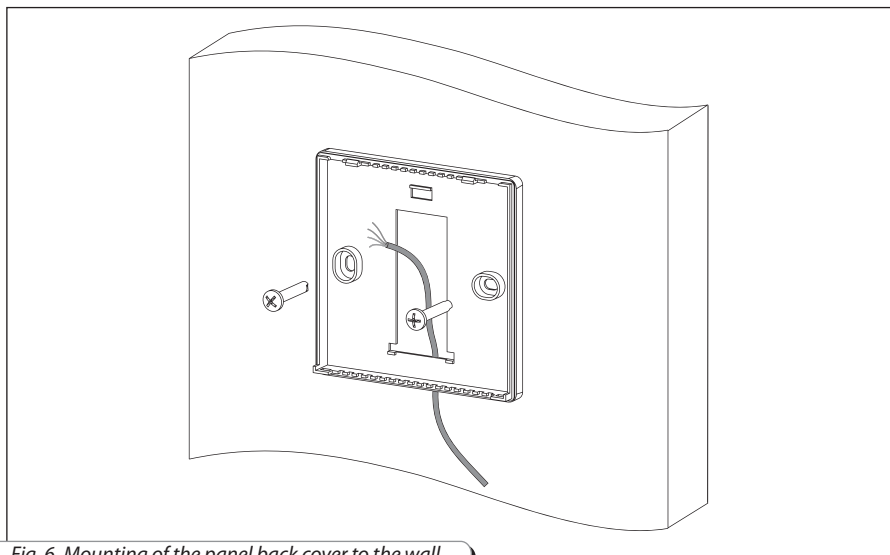

Fig. 6. Mounting of the panel back cover to the wall
- Fix the panel back cover to the wall, fig. 6.